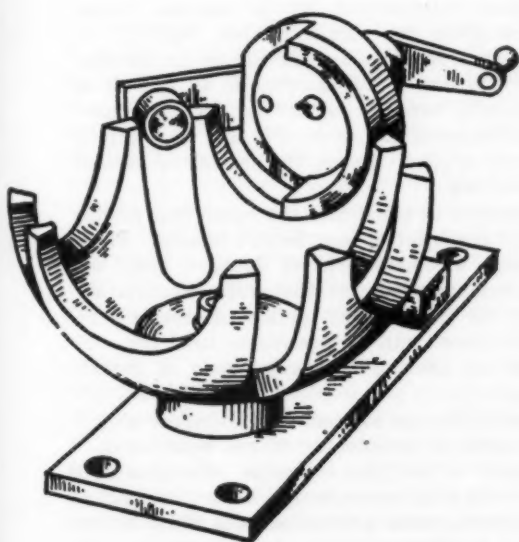

Fig. 10—Spherical Geneva.
Where the shafts are intersecting instead of parallel, bevel gears, Fig. 9, can be used. Kinematic properties limit such combinations to slow speeds. Here, too, the Geneva idea can be used. The spherical Geneva mechanism, Fig. 10, provides motion and dwell of the driven member over 180° -degree periods of rotation of the driver. The use of two rollers will reduce the dwell period to zero.
10. "Mechanisms for Providing Intermittent Rotary Motion," *Product Engineering*, Aug. 1949, Pages 116-117. (Fig. 10)